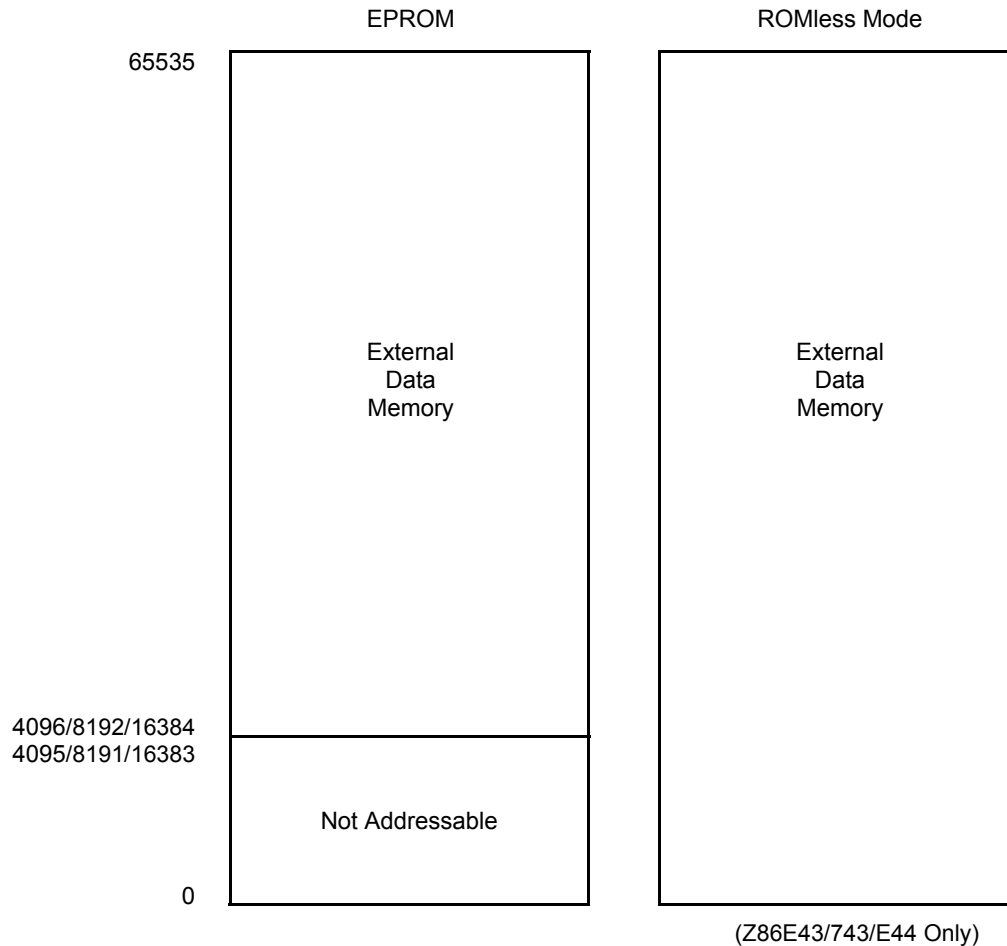

Figure 23. Data Memory Map
Data Memory (DM). In ROM Mode, the Z86E43/743/E44 can address up to 60156/48 KB of external data memory beginning at location 4096/8192/16384. In ROMless mode, the Z86E43/743/E44 can address up to 64 KB of data memory. External data memory may be included with, or separated from, the external program memory space. \overline{DM} , an optional I/O function that can be programmed to appear on pin P34, is used to distinguish between data and program memory space (Figure 23). The state of the \overline{DM} signal is controlled by the type of instruction being executed. An LDC opcode references PROGRAM (\overline{DM} inactive) memory, and an LDE instruction references data (\overline{DM} active Low) memory.